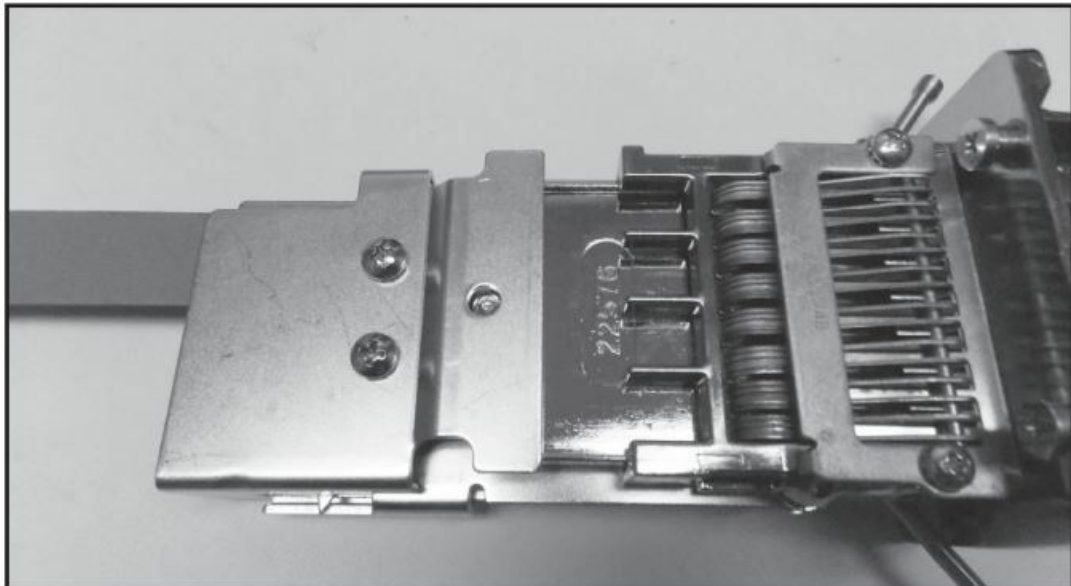

FIGURE 14
14. Reinstall both screws into the spring retainer bracket securing it to the coin slide assembly. See Figure 14.